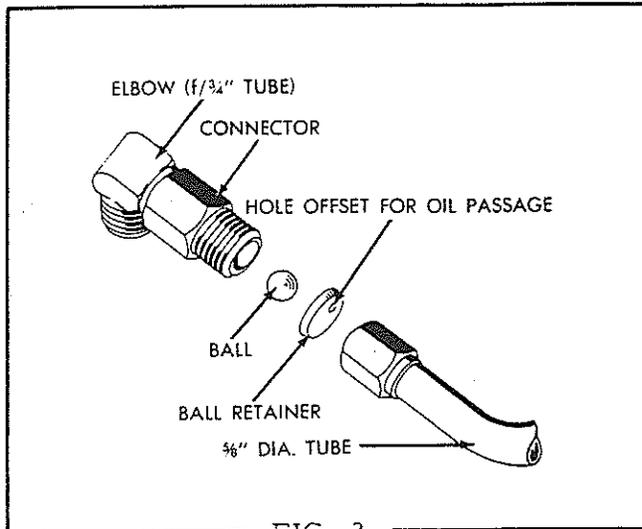

FIG. 2
**CAUTION:** Be certain check valve is installed in proper sequence or oil will bleed back to sump and lose bucket control. Refer to Fig. 2 for correct sequence of parts in installation.
When bucket is in dumped position, tilt rams are collapsed. When bucket is raised, oil must be relieved from rod end of tilt cylinder. The valve on R. H. end of manifold relieves this pressure allowing oil to transfer from rod end of tilt cylinder to base of tilt cylinder. (See Fig. 2).